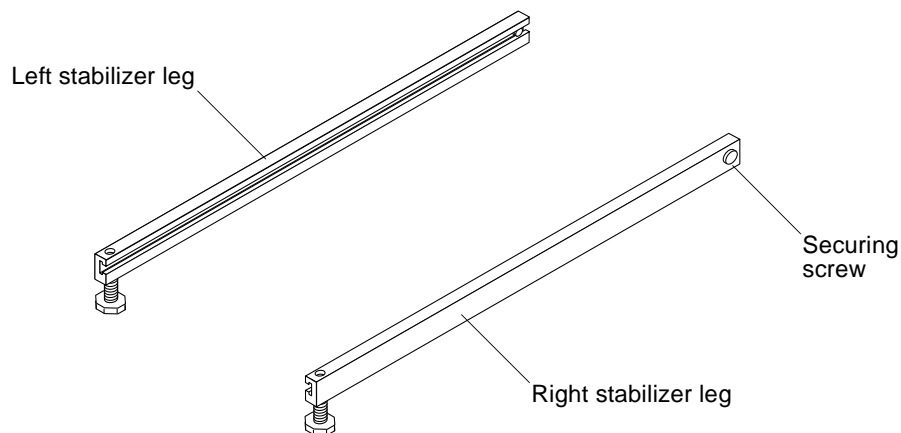

FIGURE 2-2 Stabilizer Legs
1. Loosen the securing screw on the right stabilizer leg (FIGURE 2-2).